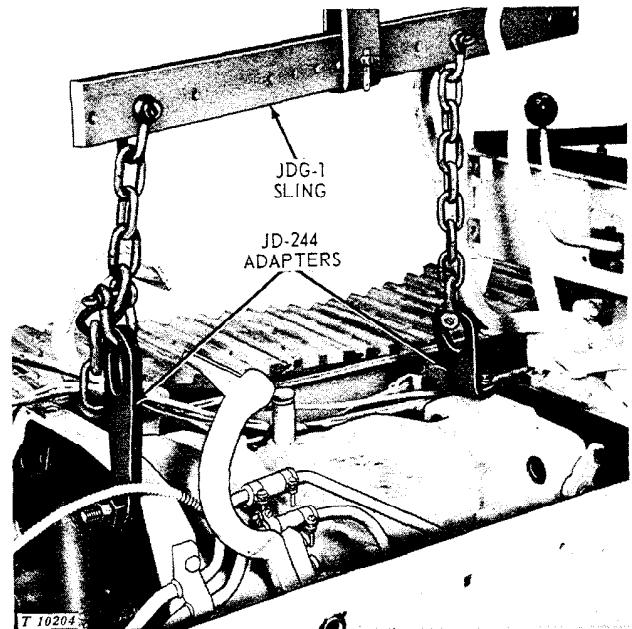

Fig. 20-10-4—Removing Reverser Case (or Clutch Housing)
10. Install two JD-244 adapter tools on front and rear of clutch housing or reverser case (Fig. 20-10-4).
19. With the aid of a hoist, remove reverser case or clutch housing by sliding it forward off transmission studs and input shaft (Fig. 20-10-4). Be careful not to allow clutch throw-out bearing and carrier to fall out.
mission studs and input shaft (refer to Fig. 20-10-4). Be sure that throw-out bearing is correctly positioned.